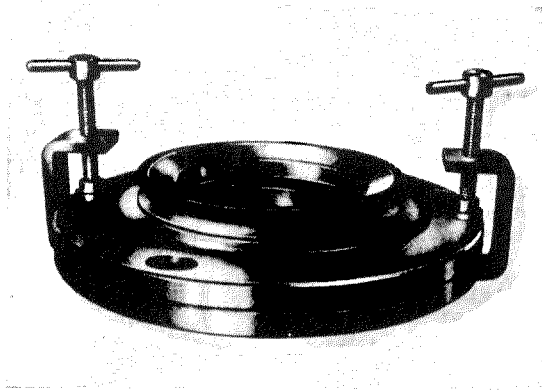

Fig. 01-4/61
3. Fit the two Clamps 187 589 04 31 over the flywheel rings and slightly compress the vibration damper (Fig. 01-4/61).
5. Unscrew the hexagon screws (11) for fastening the pulley and take off the pulley together with the vibration damper (Fig. 01-4/60).
7. Unscrew the shoulder screw (3) which fixes the counterweight to the crankshaft,